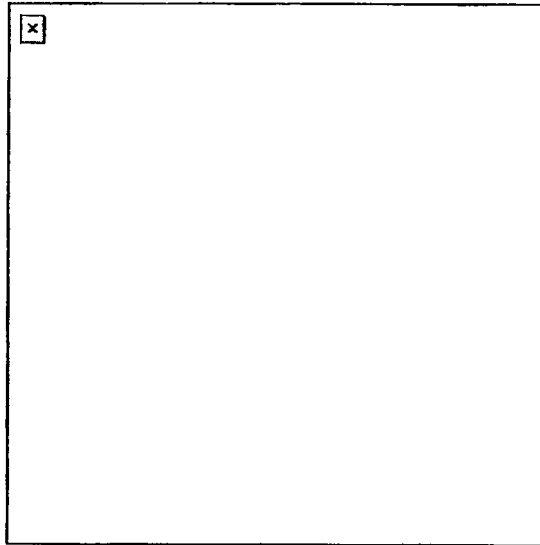

Figure 12. Removal of the round positioning block.
- i. Remove the round positioning block (Figure 12).